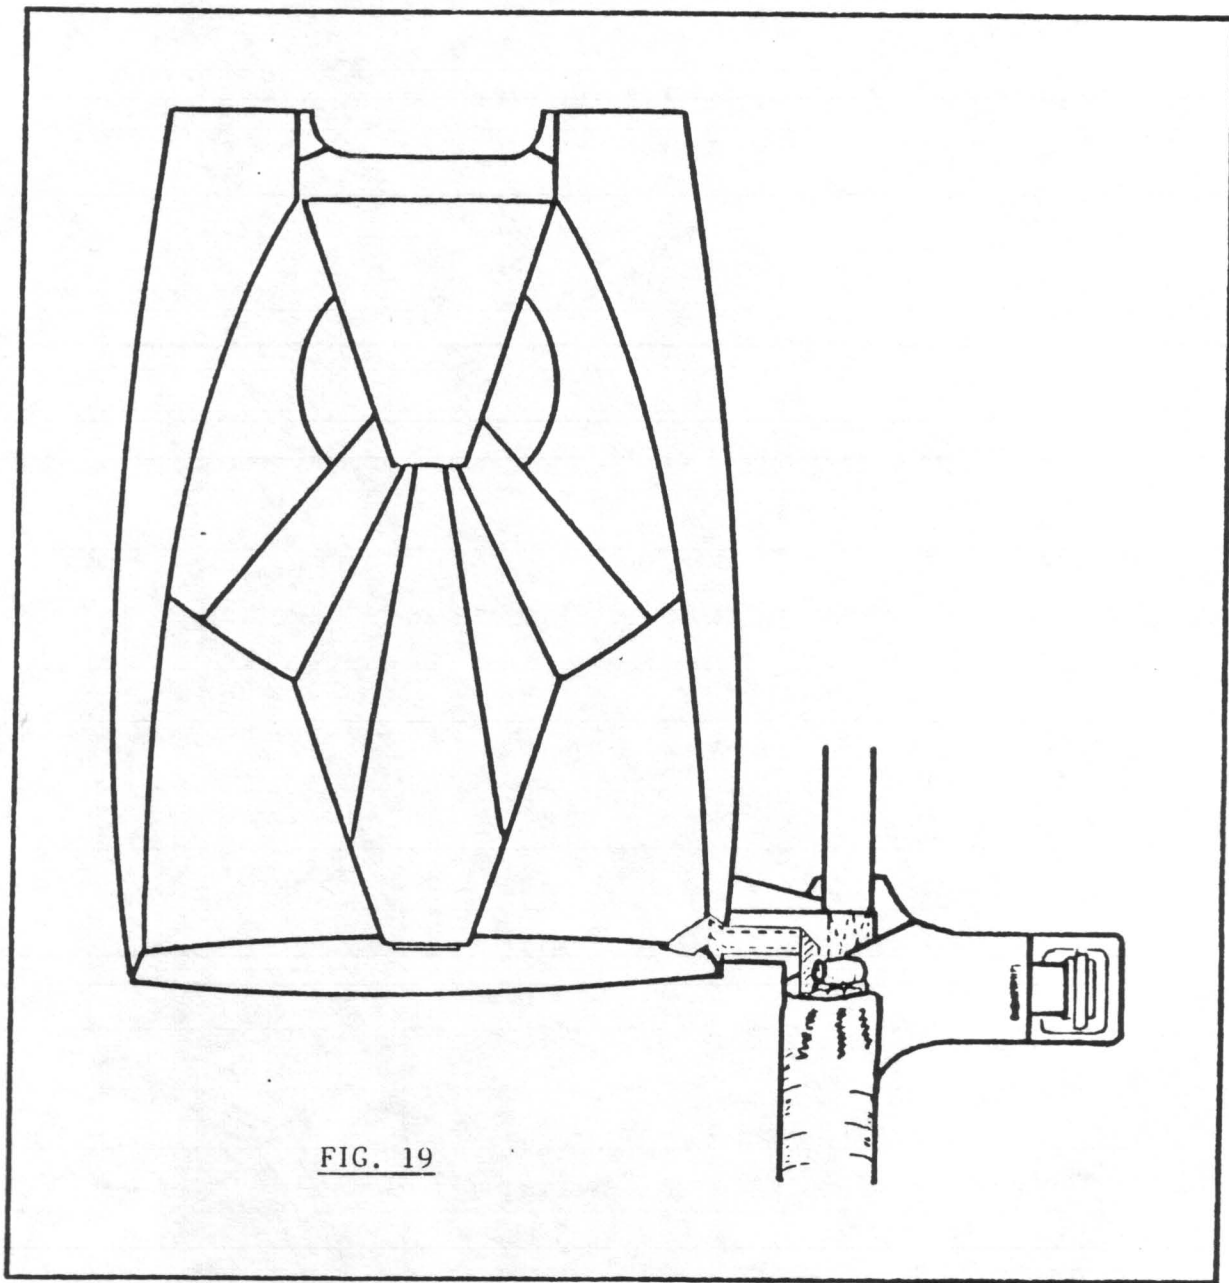

FIG. 19
18) Close the riser covers over the main risers (FIG. 19).